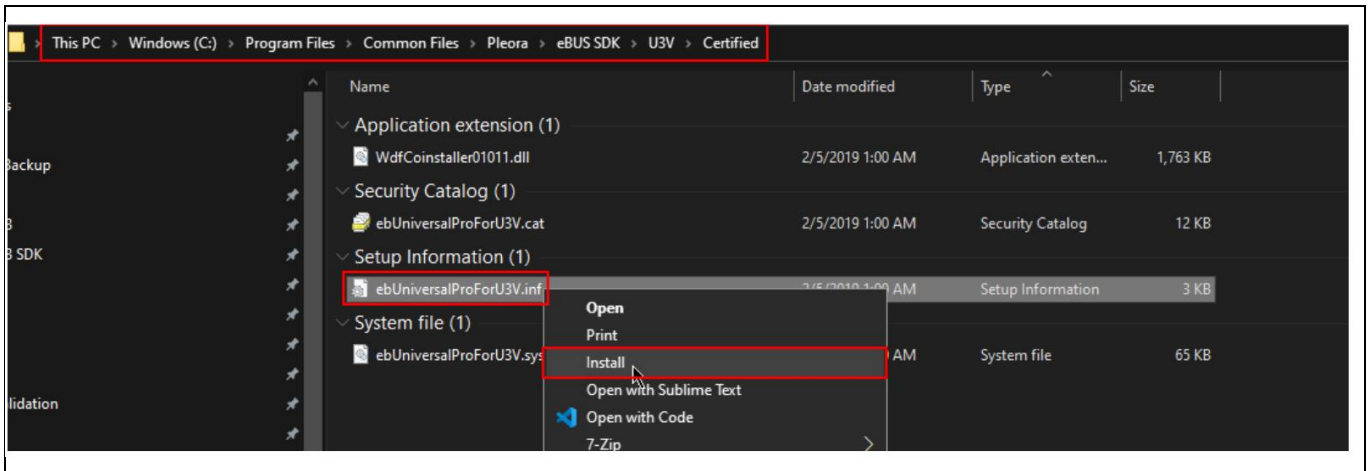

Figure 17 Installing driver for USB3 Vision player (eBUS player)
- 8. If FX3 is not detected, go to “C:\Program Files\Common Files\Pleora\eBUS SDK\U3V\Certified” and install the U3V driver as shown in Figure 17.